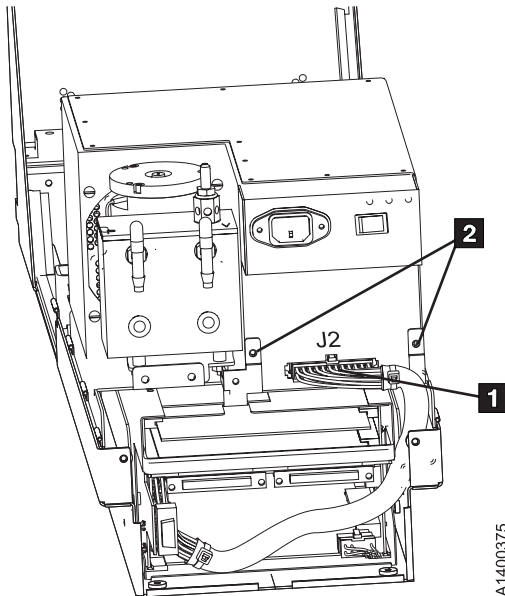

Figure 10-47. Power Supply (New Level only)
4. See Figure 10-47. Disconnect the power distribution cable **1** from the power supply at connector J2.